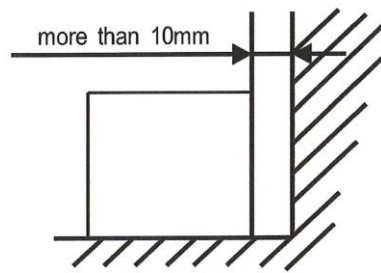

Figure 2
- The appliance requires a minimum ventilation space at sides top and rear of 10 mm. The front grille must be completely unobstructed. See Figure 2.